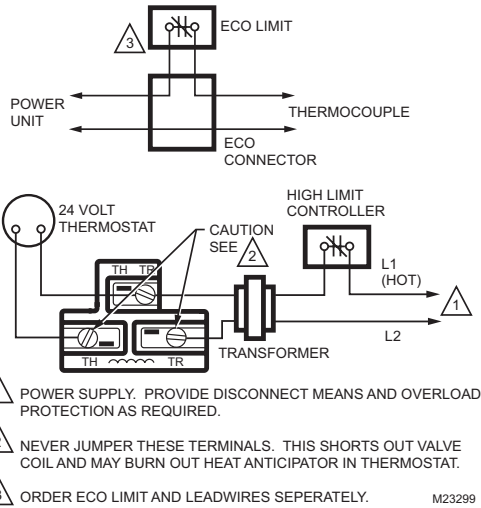

Fig. 9. Typical Wiring Hookup for 24V Systems.
2. Connect control circuit to operator terminals. Refer to Fig. 9 for typical 24V wiring diagram.